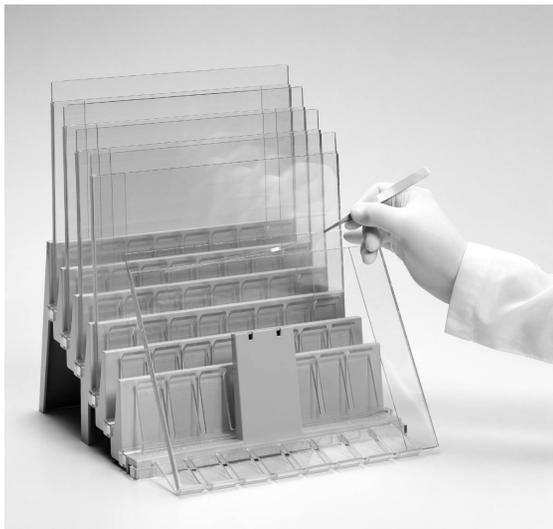

Fig. 3.3. Loading an IPG strip on a PROTEAN Plus 2-D gel in the 6-row AnyGel stand.
3. Insert the IPG strip onto the 2-D slab gel using forceps by sliding the plastic backing of the IPG strip downward against the back plate (Figure 3.3).